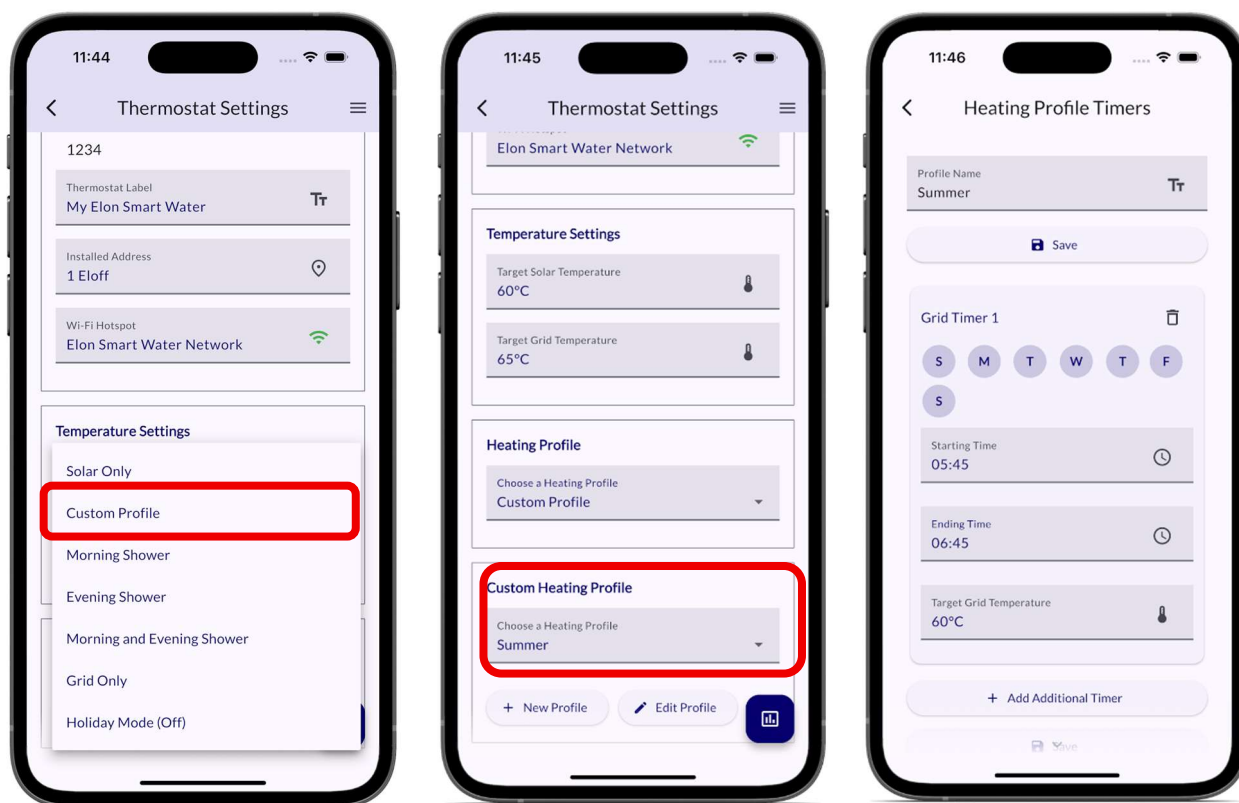

Fig 4.19 Select “Custom Profile” Fig 4.20 Choose a custom profile Fig 4.21 Set grid time slots
- If you want to set your own times for when the water should be heated with grid power, select the **“Custom Profile”** heating profile (see Figure 4.19).